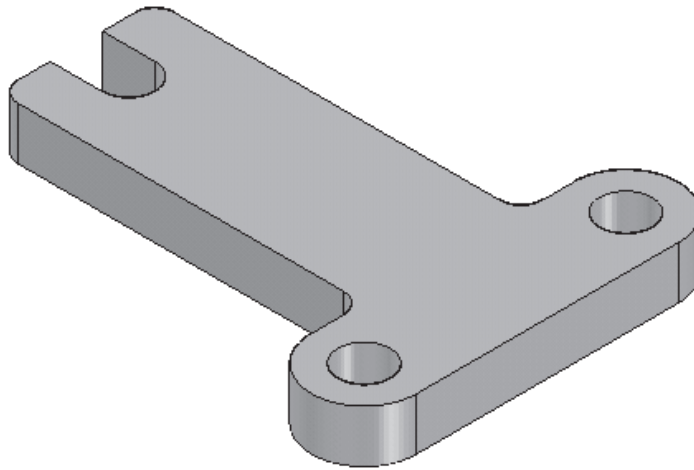

Figure 5-49 Base feature of the model
- a. Create the base feature with two holes on the top plane, refer to Figure 5-49.
6. Choose **Finish** and then choose **Cancel** from the ribbon bar. The base feature of the model is shown in Figure 5-49.